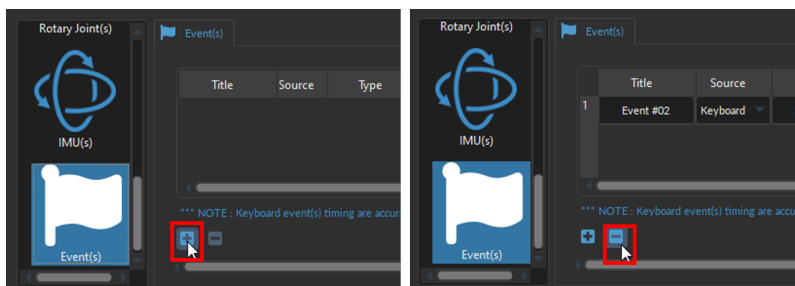

Figure 10.35: Adding and Removing Events
To add a new **Event**, select the + sign at the bottom of the window (Fig. 10.35, left). To remove an Event, use the - button (Fig. 10.35, right).
- **NOTE:** Selecting the + button (without clicking the *Add* button or the *Close* button of the *Channel Configuration* window) will **automatically** add the Keypress Event channel at the **bottom** of the Acquisition View window, below any pre-existing channels (Fig. 10.35).